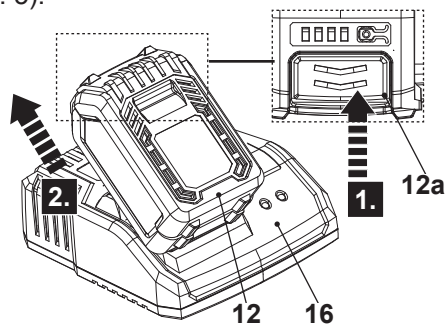

Fig. 5
3. After charging finished (this normally takes 1 hour, see below "Power / charging status indicator" section for charging status), disconnect the charger (16) from power supply.
4. Press the release button (12a) and remove the battery pack (12) from the charger (16) (Fig. 5).